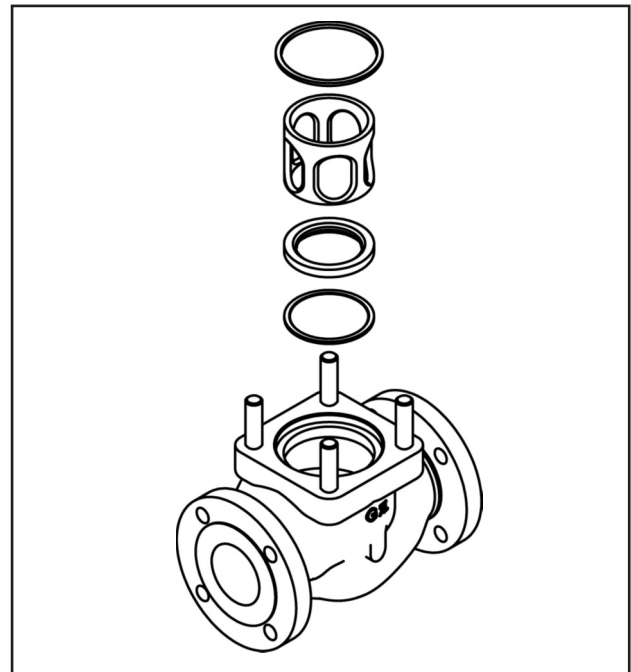

Figure 4
- ▷ Remove the seat retainer, seat and the gaskets from the body (see Fig. 4).